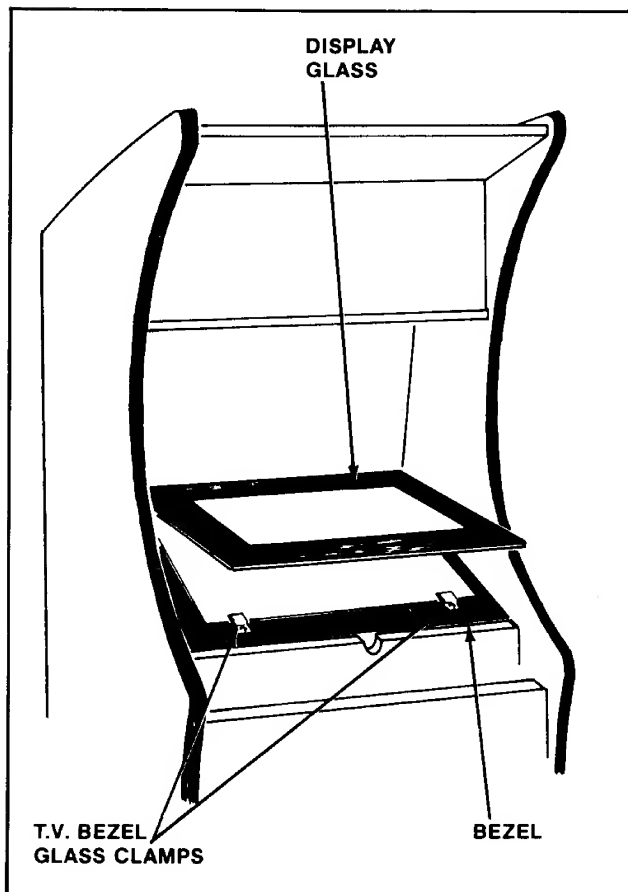

Figure 4-5 Removal of Main Display Glass & T.V. Bezel — Upright
1. UPRIGHT MODEL: See Figure 4-5.